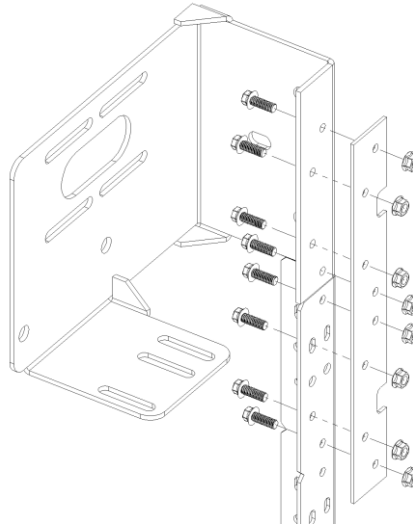

Figure 10
1. Attach Bearing Assembly to Upper Mounting Rail using DR4261 Junction Plate and 1/4-20 nuts and bolts. **(SEE FIGURE 10)**